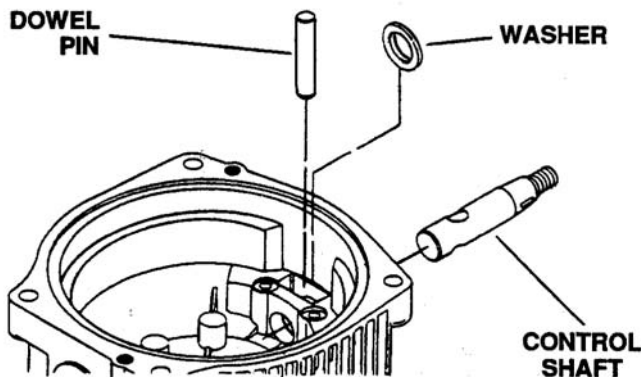

Figure 6-115. Install Control Shaft and Washer
1. Install new control shaft and washer in cover. See Figure 6-115.